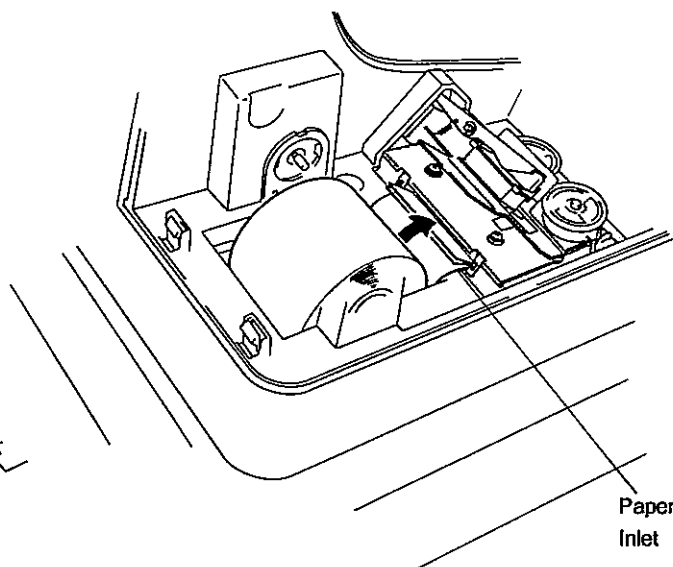

Fig. 3
- 3) Insert the paper ends into the paper inlet located on the rear side of the printer, and press the [FEED] key on the keyboard until the paper ends come out of the outlet. (Fig. 3)